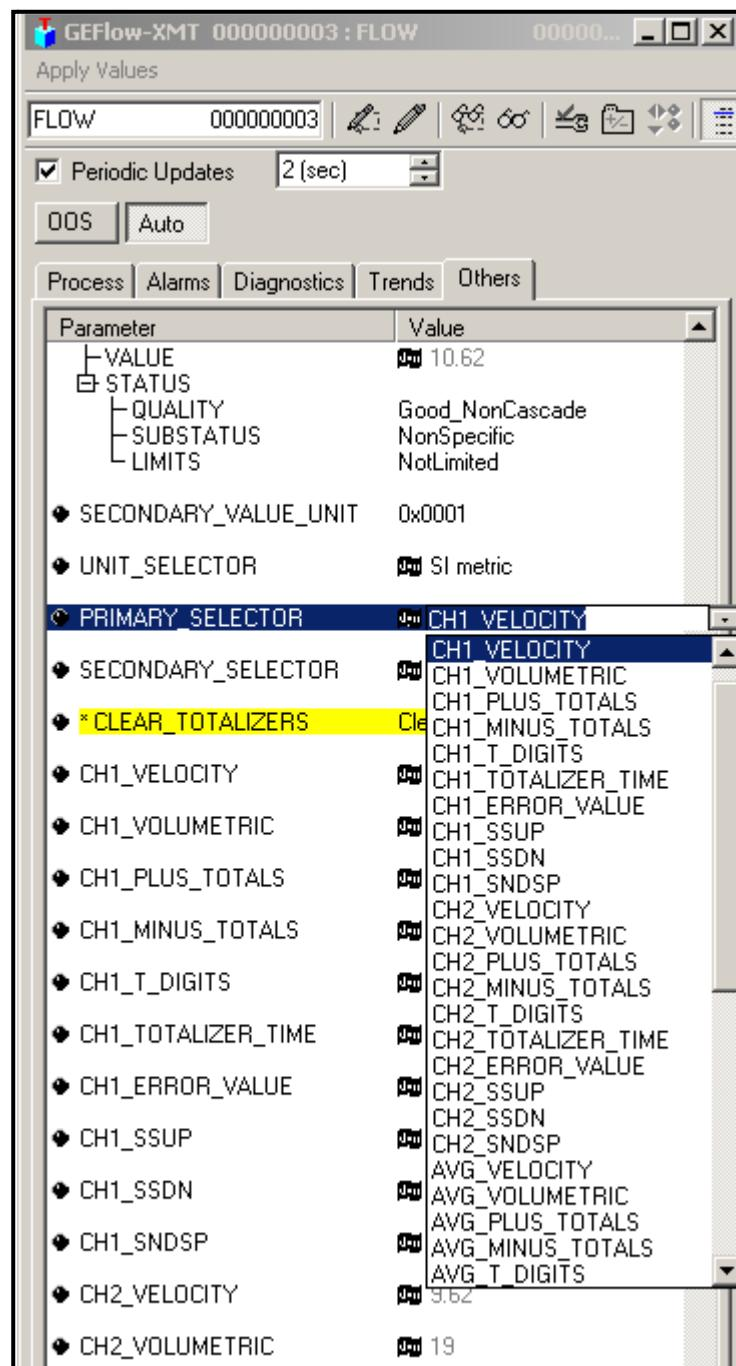

Figure 41: Primary Selector Drop Down List
2. Select the **Others** tab and open the drop down list for the PRIMARY_SELECTOR and SECONDARY_SELECTOR (refer to Figure 41 on page 99).
3. Choose the unit from the list (see Figure 41 on page 99).